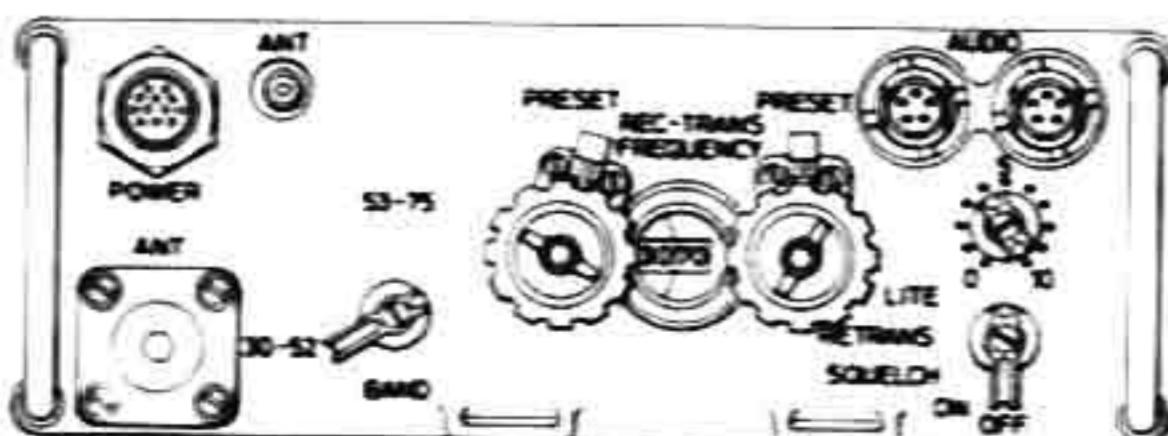

Fig. 1-40 VHF(FM) Radio, AN/PRC-25 (FM3 and 4)
(Ref. Fig. 1-40). The AN/PRC-25 radio set is a short-range, man-pack portable, frequency modulated (FM) transceiver, used to provide two-way voice communication. The frequency range is 30-75 MHz. When the operational role of the aircraft requires more than two VHF (FM) radios to be used, two man-pack radios AN/PRC-25 may be fitted. They are installed in brackets on the rear of the pilot's and co-pilot's seats and connected into the aircraft audio system by means of cables located on either side of the cabin, stowed in clips forward of the cabin doors. The braided cable is attached to either of the posts marked AUDIO on the set, and the smooth cable to the post marked ANT. Antennae for the sets are stowed inside the fuselage on the starboard side of the aircraft aft of the rear access door. They are screwed into mounts on either wing-tip. Unless a passenger is carried, the sets must be switched on and set to the required frequencies before flight, as they are inaccessible from the cockpit. On the signal